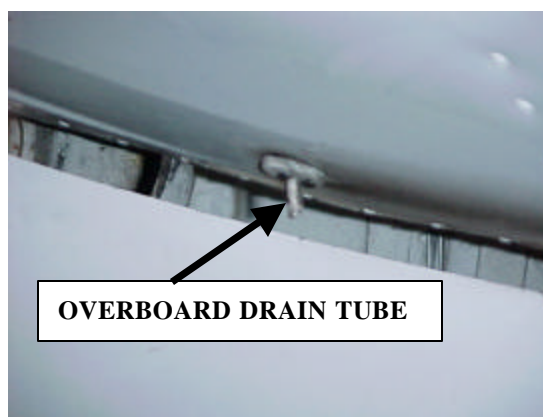

FIGURE 5
8. Have an assistant observe the engine driven fuel pump assembly basic fuel pump seal overboard drain tube for evidence of fuel discharge. See Figure 5.